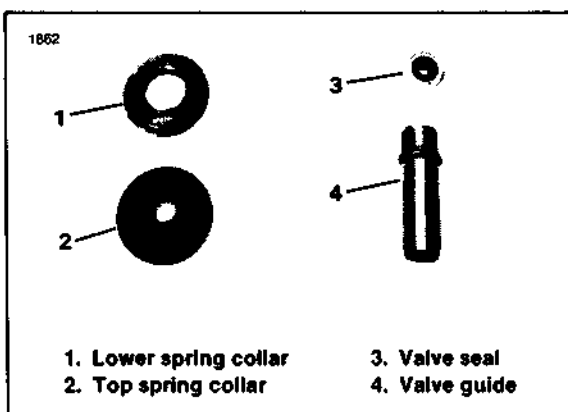

Figure 2. Current Assembly Parts
See Figure 2. When using the late style replacement valve guide (4), see preceding chart for correct part number, use the current lower spring collar (1), Part No. 18222-81, current top spring collar (2), Part No. 18219-81, and valve guide seal (3), Part No. 18000-81.